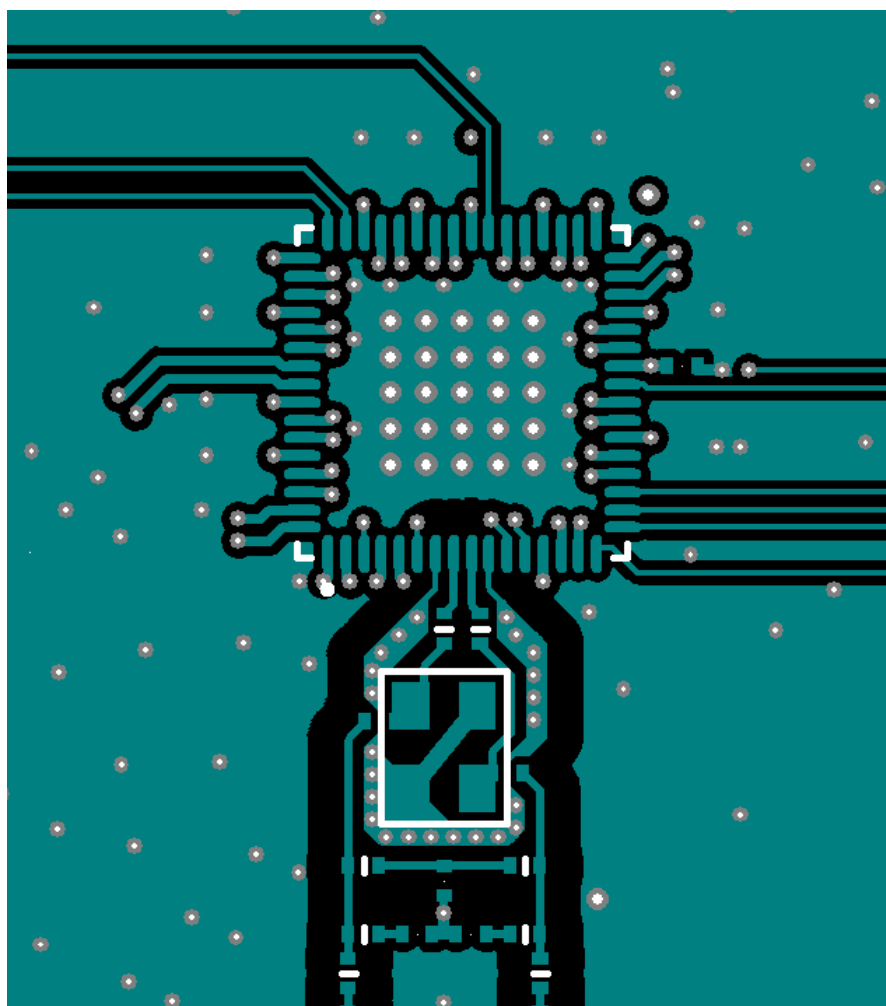
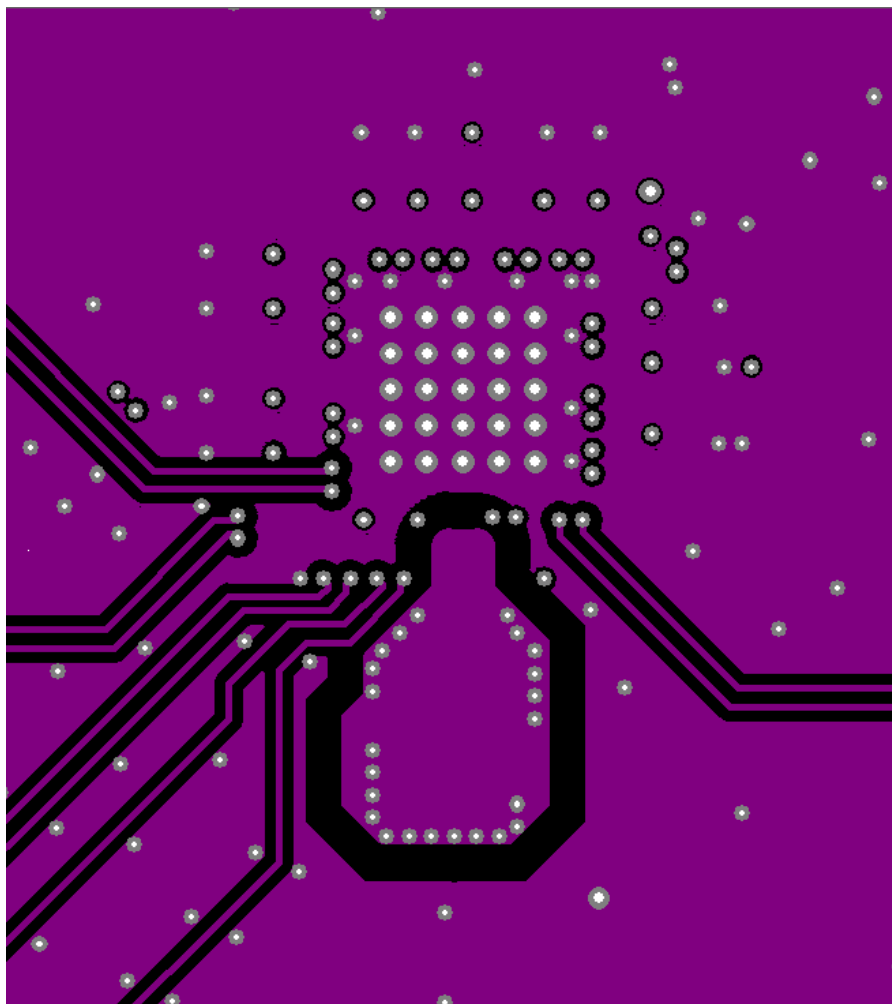

Figure 12.1. 64-pin Si5395 Crystal Layout Recommendations Top Layer (Layer 1)
Figure 12.2. Zoom View Crystal Shield Layer, Below the Top Layer (Layer 2)
3. Connect the crystal's GND pins to the DUT's X1 and X2 pins via a local crystal GND shield placed around and under the crystal. See Figure 12.1 64-pin Si5395 Crystal Layout Recommendations Top Layer \(Layer 1\) on page 72 at the bottom left for an illustration of how to create a crystal GND shield by placing vias connecting the top layer traces to the shield layer underneath. Note that a zoom view of the crystal shield layer on the next layer down is shown in Figure 12.2 Zoom View Crystal Shield Layer, Below the Top Layer \(Layer 2\) on page 73.
Figure 12.2 Zoom View Crystal Shield Layer, Below the Top Layer (Layer 2) on page 73 shows the layer that implements the shield underneath the crystal. The shield extends underneath the entire crystal and the X1 and X2 pins. This layer also has the clock input pins. The clock input pins go to layer 2 using vias to avoid crosstalk. As soon as the clock inputs are on layer 2, they have a ground shield above, below, and on the sides for protection.